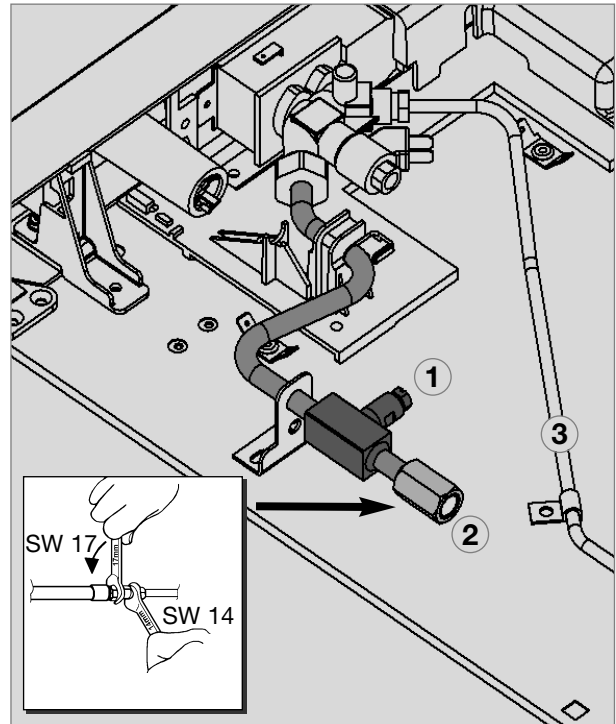

Fig. 33
- The gas connection to the appliance is 1/8" BSP Female (s. figure 33).